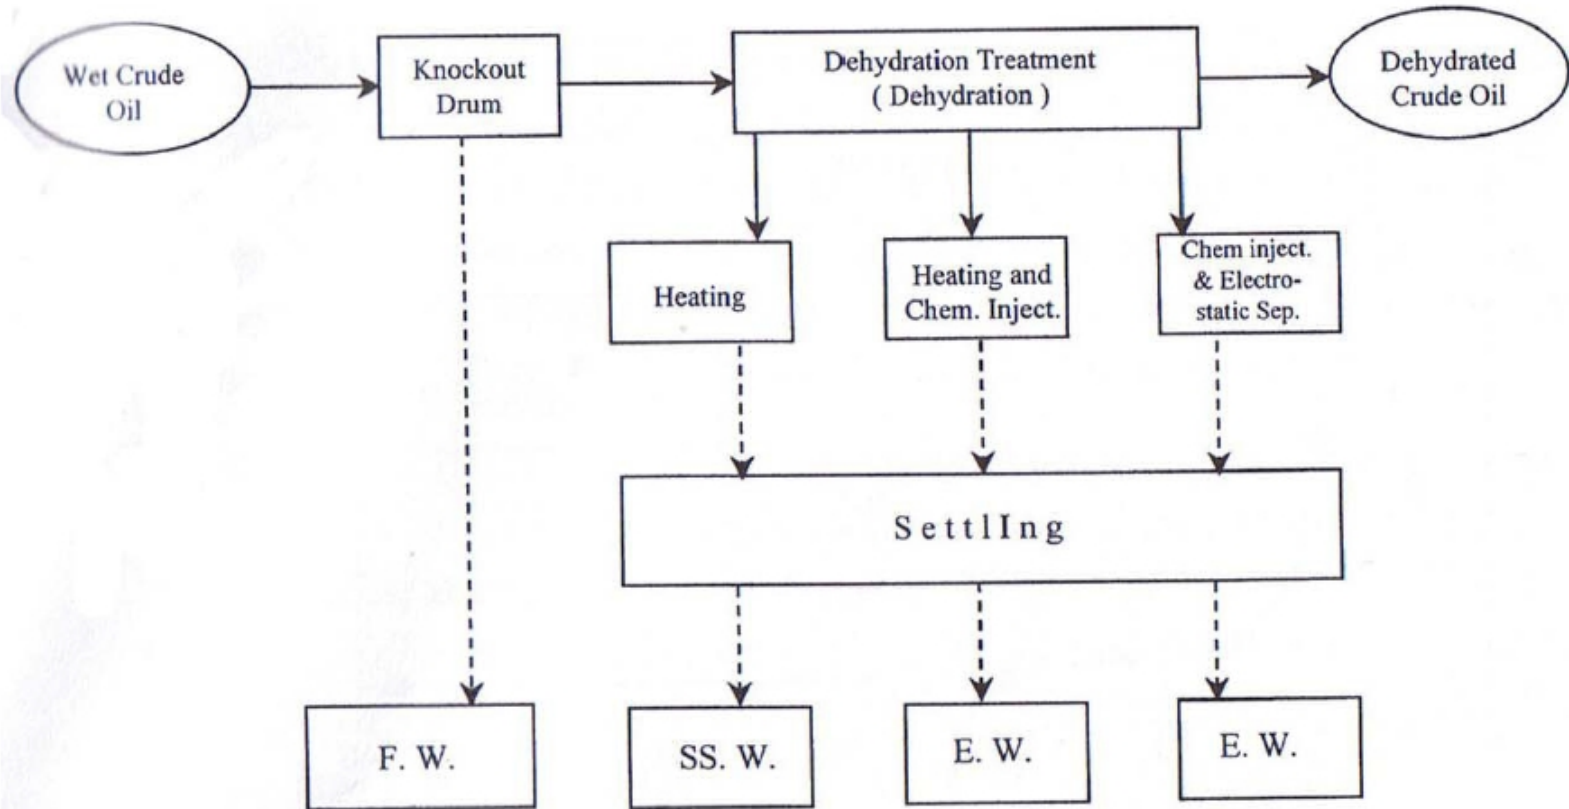

Figure 3 Basic approach of handling wet crude oil.
- The basic approaches of handling “wet” crude oils are illustrated in Figure 3.